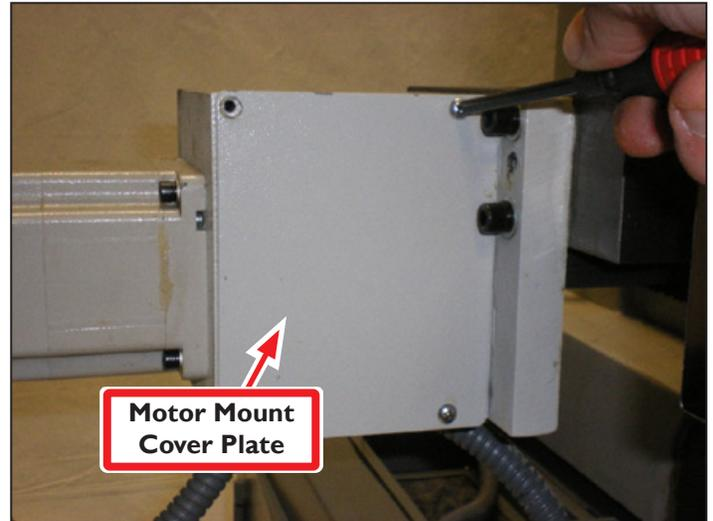

Figure 6
3. Remove *Motor Mount Cover Plates* from X-, Y-, and Z-axis motors (see **Figure 6**).